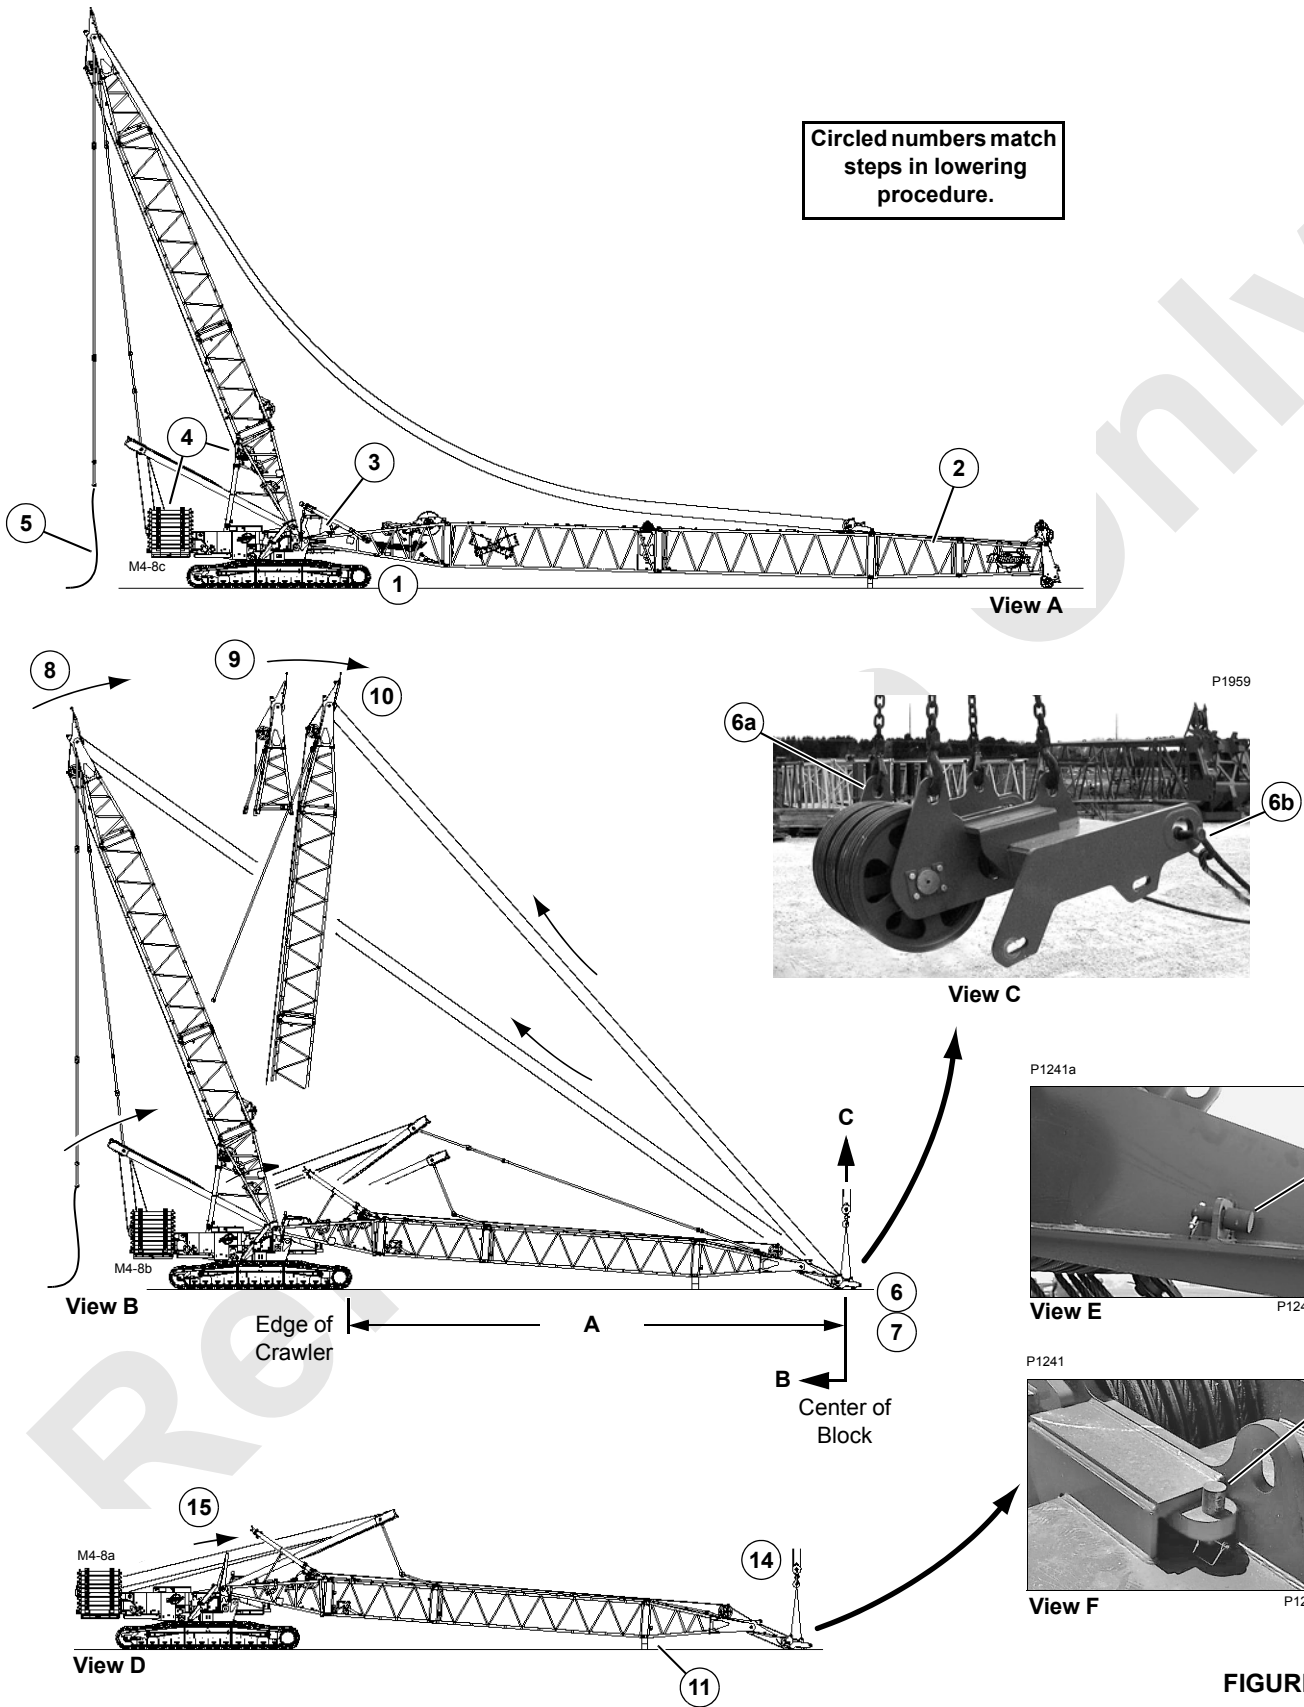

FIGURE 4-36
- If an assist crane is used, it must provide the forces given in Table 4-2. Letters in Figure 4-36, View B correspond to letters in the table
Circled numbers in Figure 4-36 match the following steps.